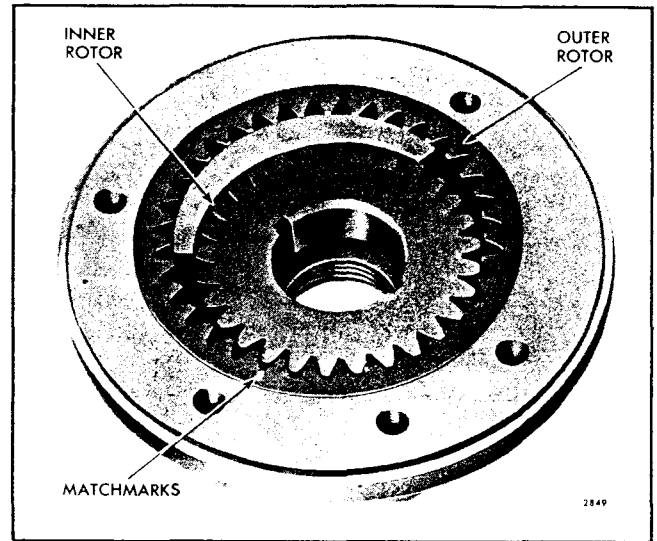

Fig. 21 - Location of Matchmarks on Inner and Outer Oil Pump Rotors (Gears)
- b. Matchmark the teeth of the inner and outer rotors (gears) where they mesh as shown in Fig. 21 so they may be reassembled in the same position.